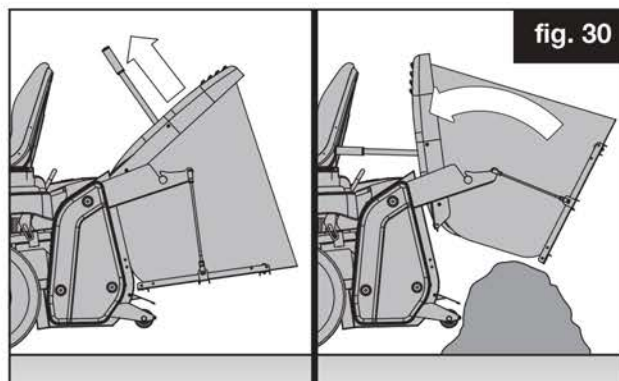

fig. 30
PGC Net Empty (fig. 30)
3. Extend the PGC net tipping lever, then rotate the lever forward to the seat (fig. 30).